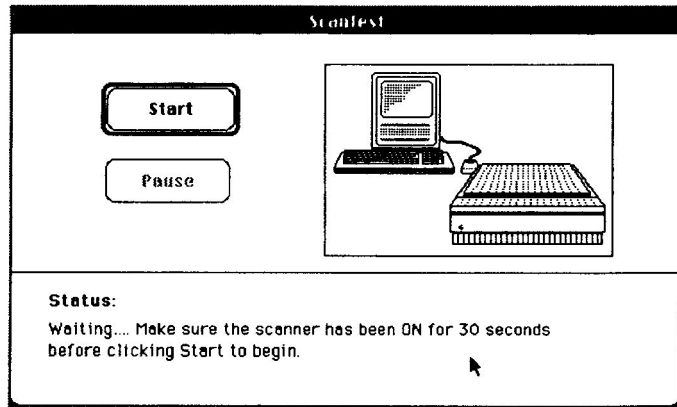

FIGURE 4
- When you have read the screen and made sure these conditions are correct, click **OK**. The status screen will display (Figure 4).